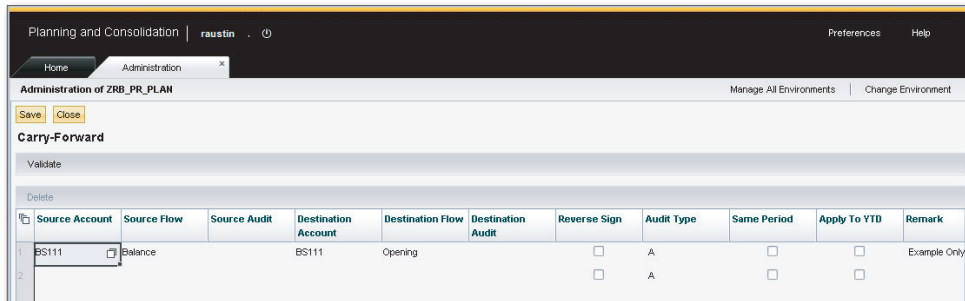

Figure 9.5 Configuring Carry Forward Balance Business Rule—Part E
5. Define the business rule to configure the carry forward balance of the LAND & BUILDINGS account, as shown in Figure 9.5. In our example, we want to copy the closing balance for this account as of December 2011 to the opening balance as of January 2012 when the carry forward balance script is executed for January 2012.